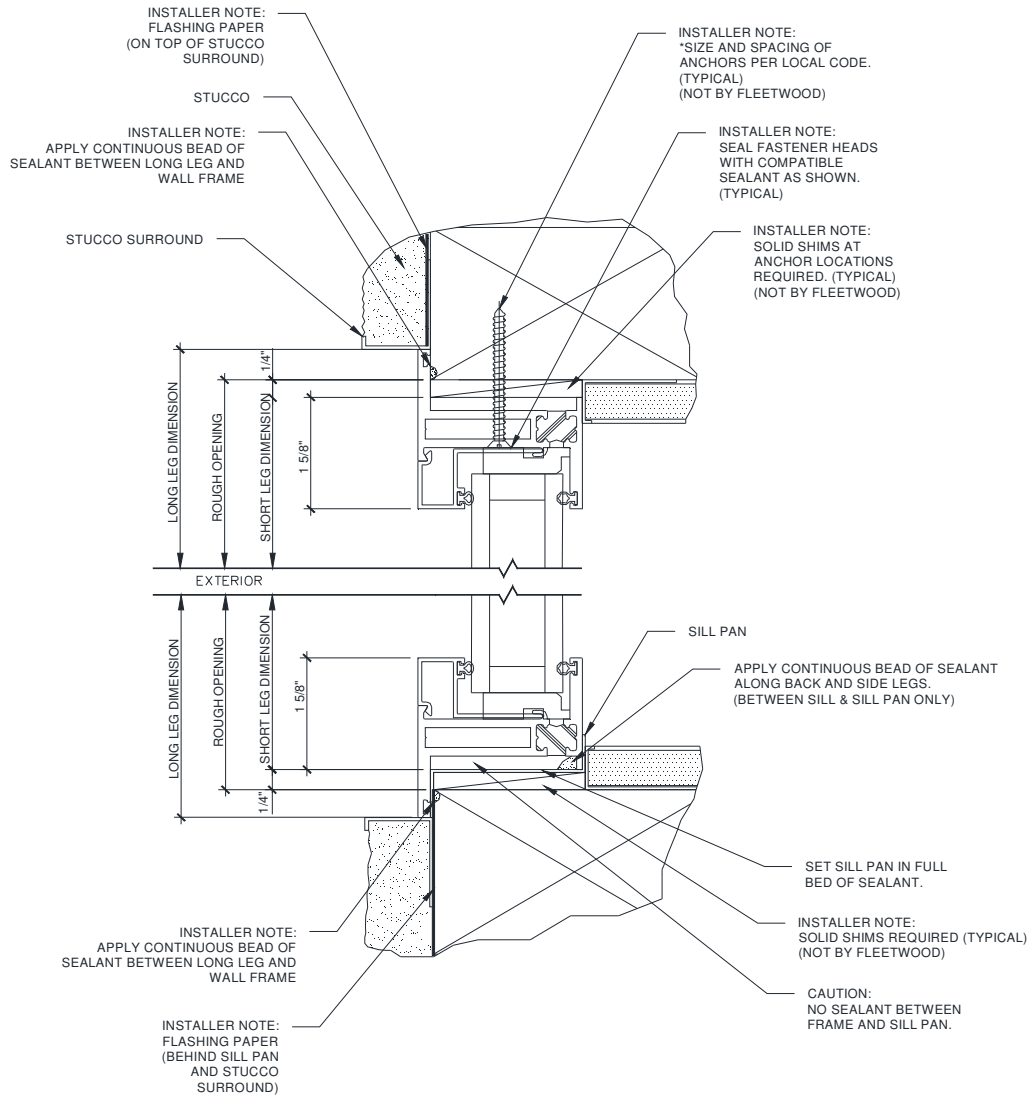

Figure 10:
- Apply a continuous bead of sealant along the back and short leg between the sill and sill pan, and around the entire window frame along the long leg (Figure 10, page 8). Then insert the frame into the opening. Cross-measure and adjust as necessary to achieve a plumb square and level condition, as well as an even reveal around the framed opening. Shim with non-porous, non-absorbent, inorganic shims where needed. Seal all fastener heads with compatible sealant. (Only drill holes through Sill as required for design load)
- Anchor to the first window according to Figure 10.
- Anchor the second window to the corner post as shown in Figure 10.